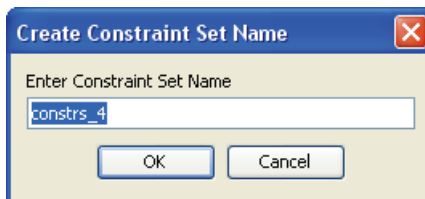

Figure 3-16: **Create Constraint Set Name dialog box**
Figure 3-16 shows the Create Constraint Set Name dialog box from the Add Constraints command.
1. In the **Add Constraints** dialog box, select the **Create Constraint Set** command in the **Specify Constraint Set** field, and enter a name for the constraint set, as shown in Figure 3-16.